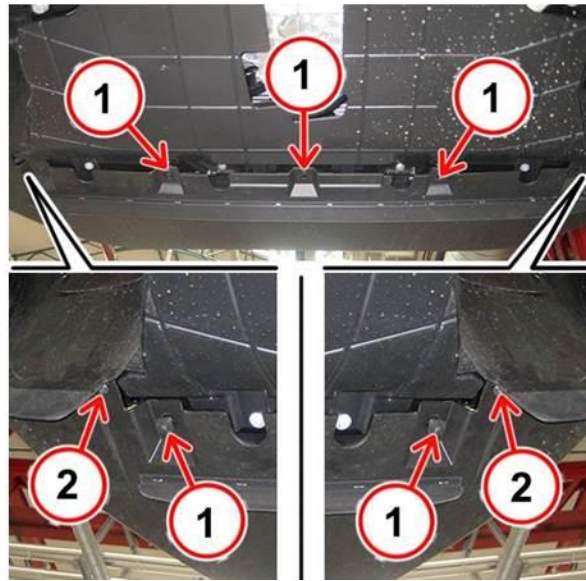

Fig. 9 Install Front Bumper Fascia Lower Edge Fasteners
12. Remove the wood block and install the fasteners (1 and 2) securing the front bumper fascia lower edge (Fig. 9).